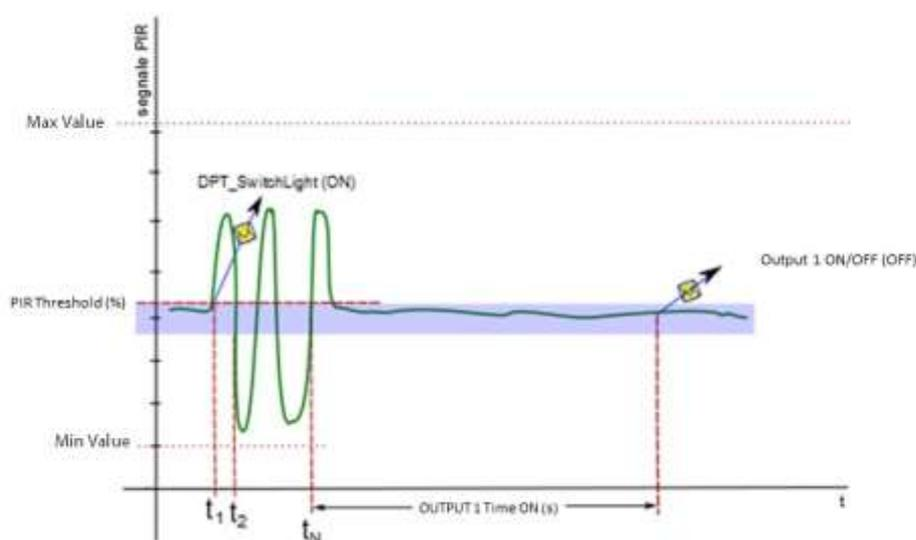

Figure 2: example of DPT_Output1 ON/OFF sending
As a result, the **DPT_Output1 ON/OFF** message can activate a light actuator which will switch on for a minimum time equal to the time-out time, corresponding to the **PAR_OUTPUT 1 Time ON (s)** parameter (default value) or to the value sent via the **DPT_Output1 ON (s)** message i.e., a temporary value until the next reboot of the device. Once the time period expires in the no presence status, the **DPT_Output1 ON/OFF** is sent with OFF value and the light goes off. Figure 2 refers to a Slave device, shows an example of the messages sent in case the motion threshold of movement sensor PIR1 has never been changed through the **DPT_PIR 1 (R) Threshold (%)** datapoint, under the condition that the brightness is inferior to the minimum value (condition b).